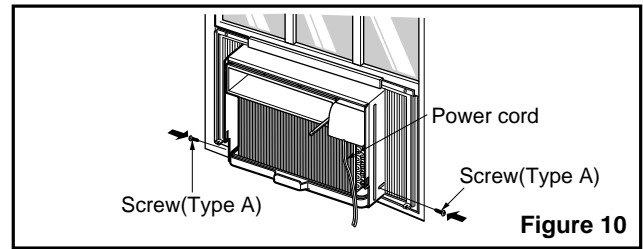

Figure 10
10. Slide the unit into the cabinet.(See Fig. 10)